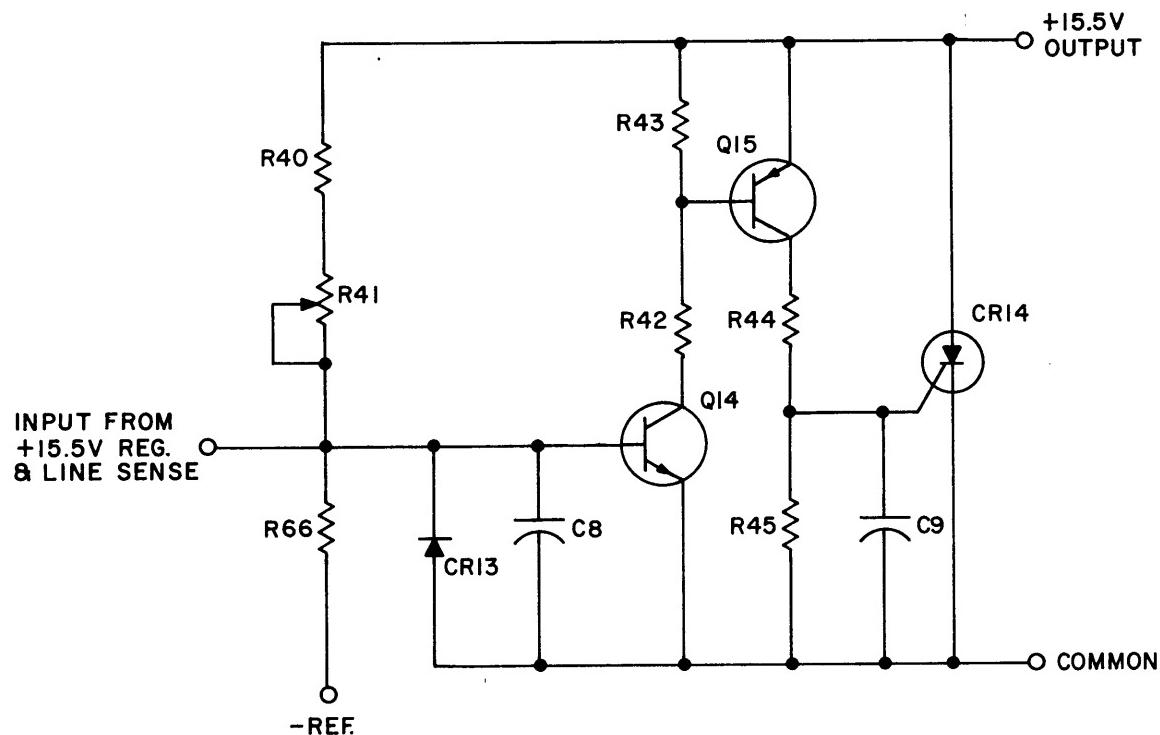

Figure 4-21. +15.5-Volt Overvoltage Circuit
**+15.5V Overvoltage Circuit.** -- The +15.5V overvoltage circuit (refer to Figure 4-21) crowbars the +15.5V output via SCR CR14 whenever the +15.5V output exceeds its maximum allowed level or whenever a shut-down signal is received from the +15.5V regulator or the line sense circuit.